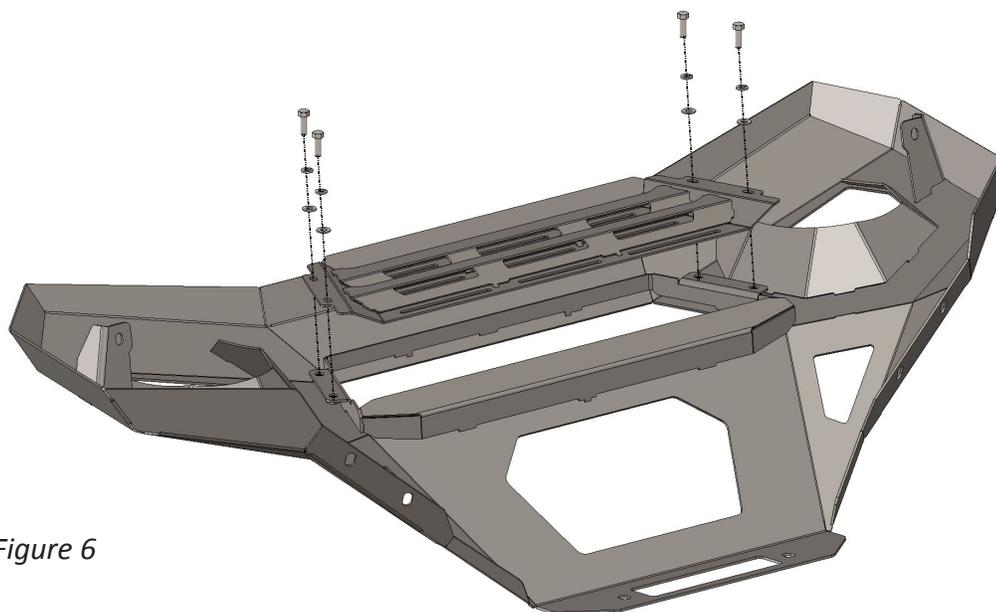

Figure 6
7. Lay the grumper grille (22763) on its face and install the grille mesh (22764) using four (4) 5/16" hex head bolts and washers. Figure 6.